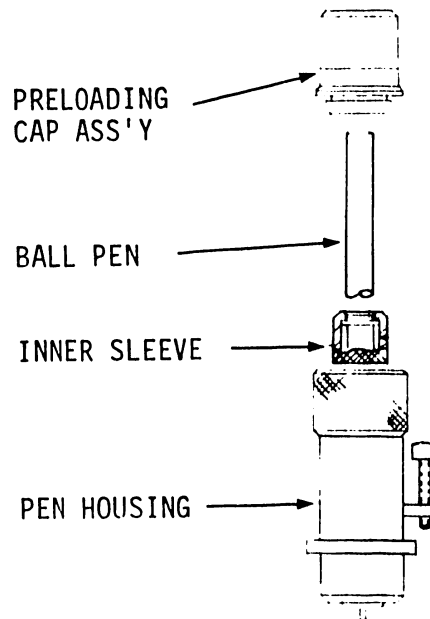

FIGURE 3
5.4 LOADING PROCEDURE FOR BALL PEN - FIGURE 3